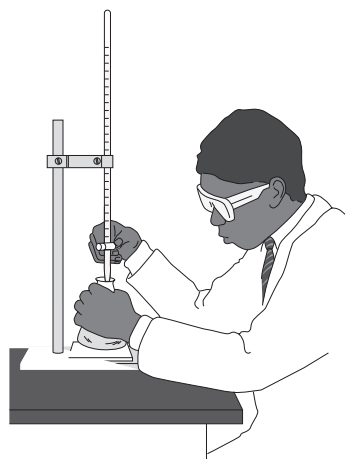

Figure 4
- 3 Add small quantities of the acid from the burette – usually no more than  $0.5 \text{ cm}^3$  at a time (Figure 4), swirling the flask as you do, until the indicator *just* changes colour from blue to colourless.